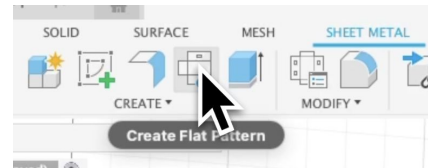

Figure 1.6
1. Switch to the Sheet Metal workspace and select create a **Flat Pattern** (see Figure 1.6).